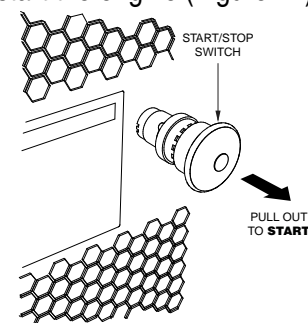

Figure 17. Start/Stop Switch (Start Position)
6. Pull the Start/Stop Switch, located on the engine cover, outward to start the engine (Figure 17).